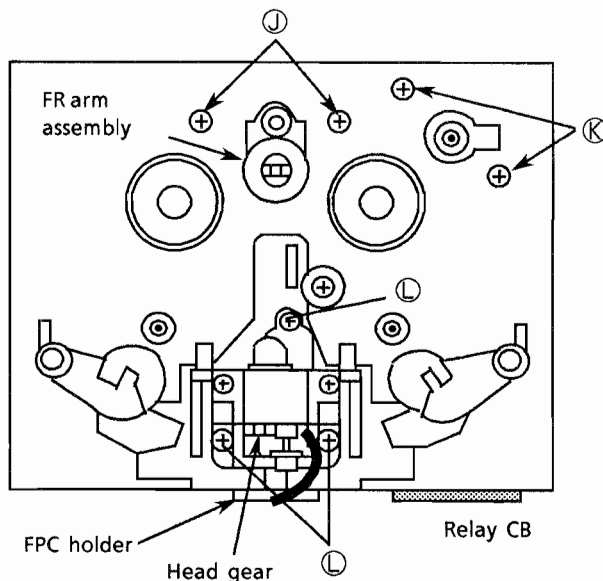

Figure9 Front of the cassette mechanism
3. Remove the 3 screws ① fixing the head assembly (Fig. 9).